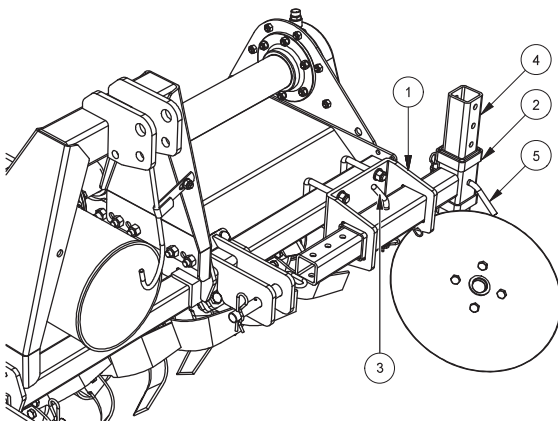

FIG. 16
- Fit the support (1, “Fig. 16”) onto the front bar; secure it near the side of the machine.
- Insert the support arm (2), according to the chosen extension and secure it into position with the pin (3).
- Insert the conveyor disc (4) to the chosen height and secure it into position with the pin (5).